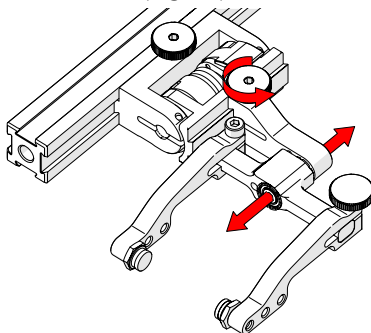

Fig. 67 - Adjust swing arm
3. Use swing arm knob to position the swing arm (Fig. 67).